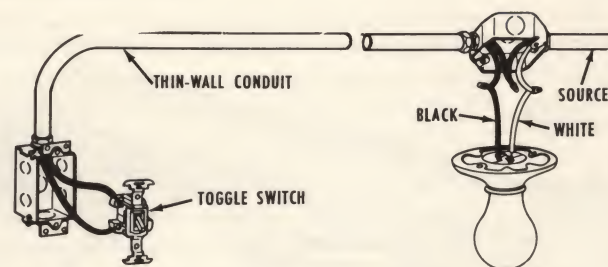

FIG. 52—SWITCH ADDED FOR EXISTING LIGHT
**WALL SWITCH FOR EXISTING LIGHT FIXTURE.** This installation is suitable when the convenience of a wall switch is desired . . . where there is no switch, or when the pull-chain switch is to be replaced. Fig. 52 shows how to run conduit and two black wires from the light to the point where switch is to be located. If 2-wire non-metallic or armored cable is used, paint the white wire of the cable black at both ends, because it will actually be "hot". Inside the ceiling outlet, disconnect the black "hot" wire from the fixture and connect to wire running to the switch. Connect other wire from switch to black fixture wire projecting from the outlet box. Notice that the neutral (white) wire is not interrupted.